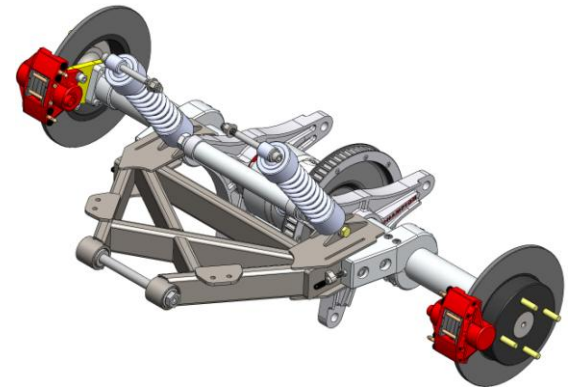

Figure 8
- c. Passing the left side of the rear end assembly through drive belt, position assembly accordingly and slide axle clamps into the end of the swing arm. Figure 8